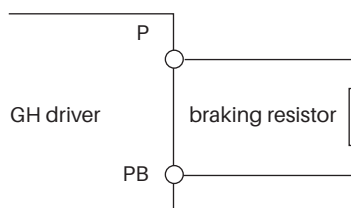

Figure 2-13 Connection of braking resistor
- The connection of braking resistor shall be in strict accordance with Figure 2-13.